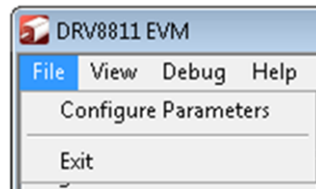

Figure 22. File Menu
- File - The File menu contains the option Exit as shown in Figure 22 below.